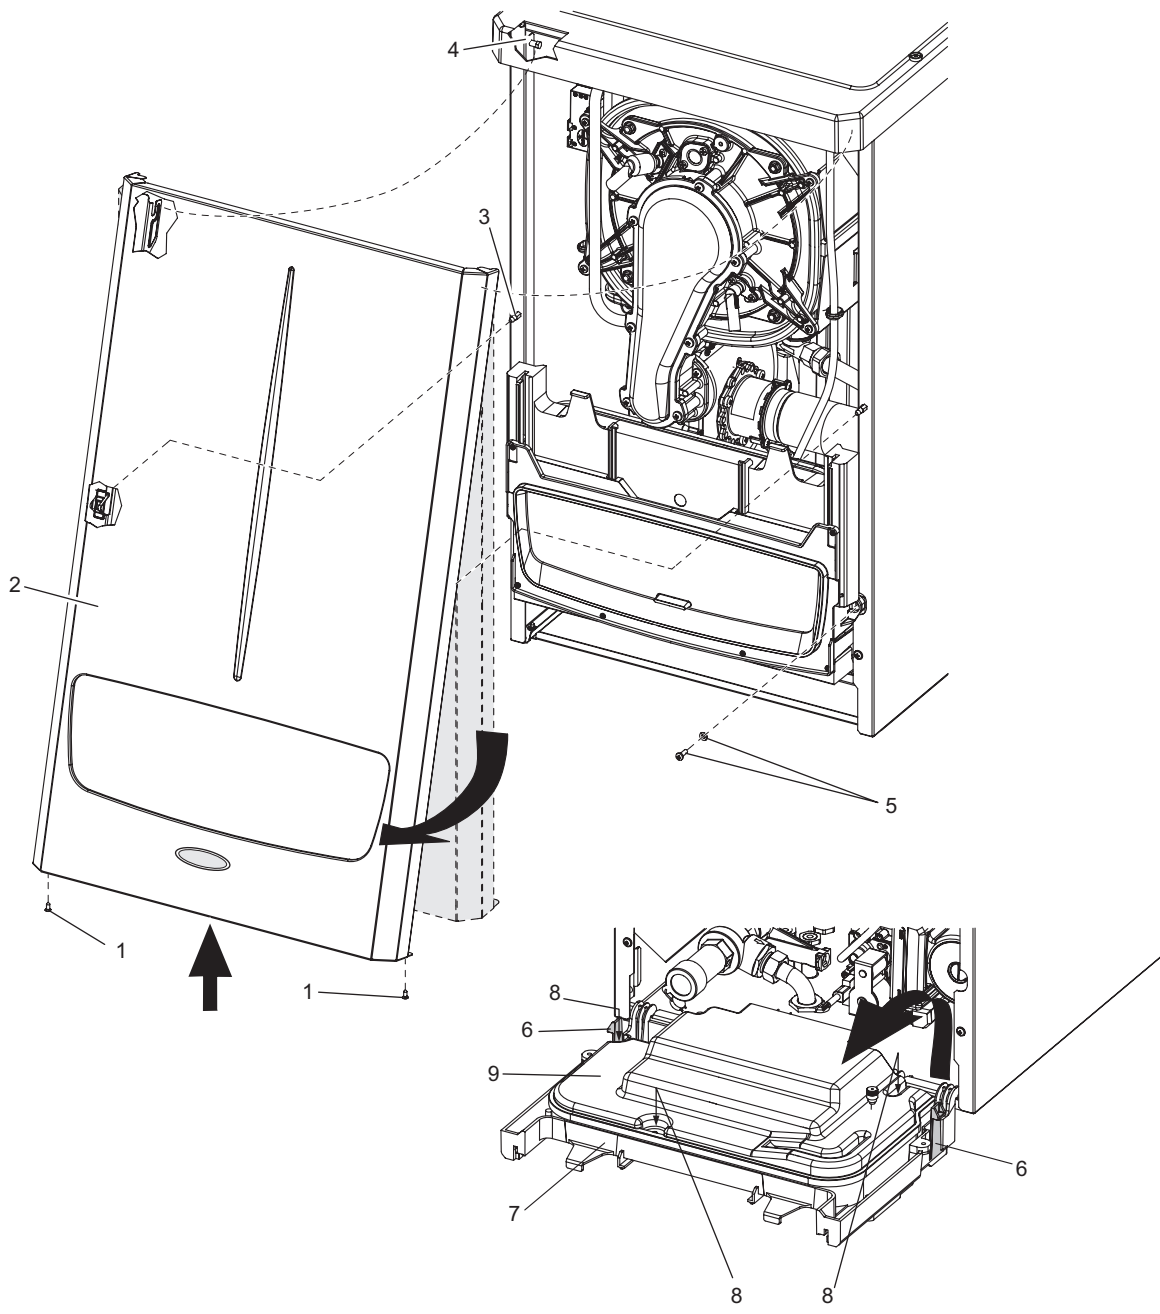

Fig. 5.11
5.7 CONNECT THE MAINS SUPPLY AND EXTERNAL CONTROLS - Fig. 5.11
Gain access as described below while referring to Fig. 5.11, page 22.
If the front cover has not been removed, refer to Fig. 5.11.